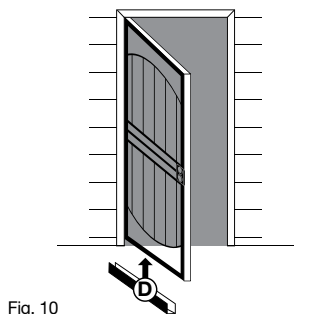

Fig. 10
Fig. 10 - With the door open, fit the bug sweep/expander bar (D) onto the bottom of the door. Close the door and position the bug sweep/expander bar so that the bar fits snugly against the threshold but does not restrict door operation. From inside the door, drill 1/8" holes through the bug sweep/expander bar and secure the expander bar to the door with the provided #6 x 3/4" screws.